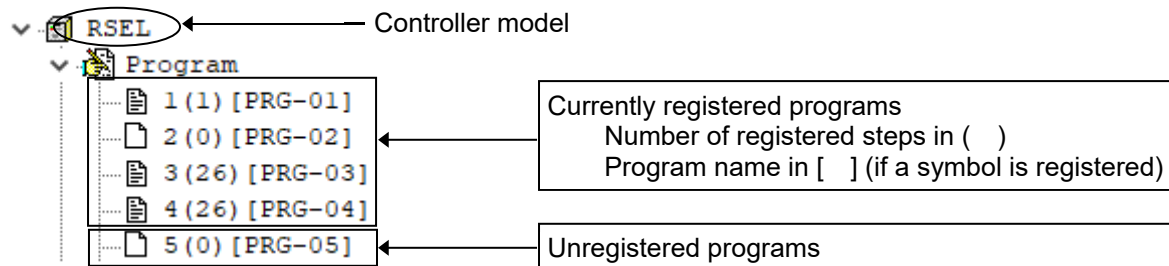

Fig. 3.13 Tree View (Controller model, Program)
You can display various data edit windows in the online mode by double-clicking the corresponding items displayed in the tree view (Fig. 3.13) that appears on the left side of the main window. You can show or hide the tree view by clicking View (V) from the menu bar and then selecting Tree View (T).